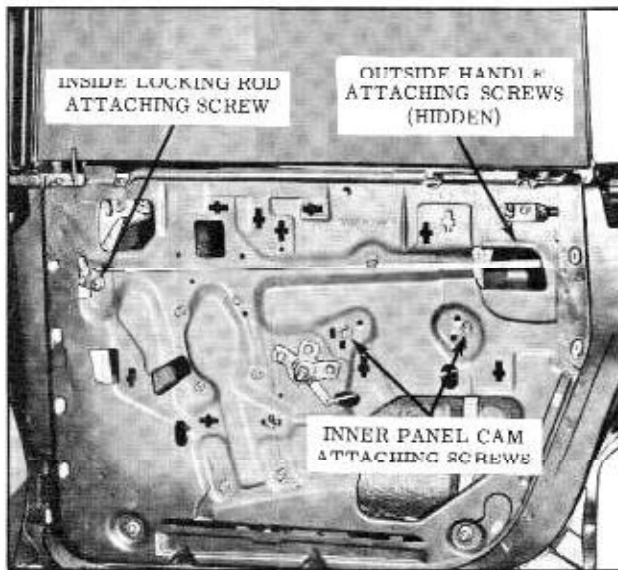

Fig. 17-45 Rear Door ('39' Style)
1. Raise door window. Remove door trim assembly and detach inner panel water deflector sufficiently to gain access to door outside handle attaching screws. (Fig. 17-45)
1. Raise door window. Remove door trim assembly and detach inner panel water deflector sufficiently to expose inner panel cam attaching screws. (Fig. 17-45)
1. To correct a condition where the window glass is cocked in glass run channels, loosen door inner panel cam attaching screws, adjust cam as required, and tighten screws. (Fig. 17-45)
5. Disengage rod from spring clip on door inner panel. Then remove inside locking rod assembly attaching screw, spring washer and washer cup and remove assembly from door. (Fig. 17-45)